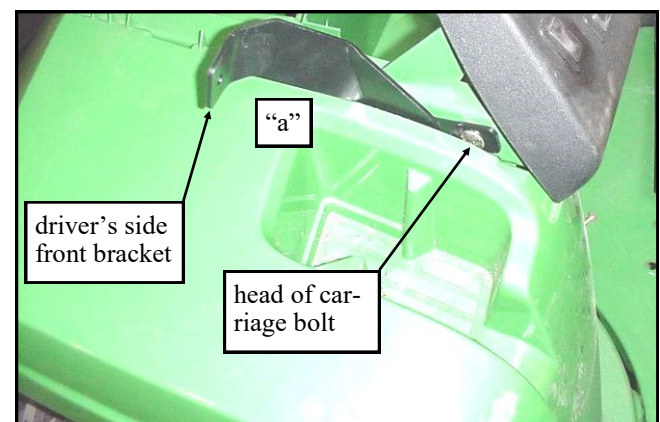

Fig. 4.1
4.1 Install the driver's side front bracket as shown in fig. 4.1. The rear bolt shown will be a 5/16 x 3/4" long carriage bolt. Use a steel washer and locknut on the inside (not shown). The other bolt used to hold the front bracket in place will be the re-installation of one of the original equipment sheet metal screws from underneath the plastic fender. See location "a" in fig. 4.1.